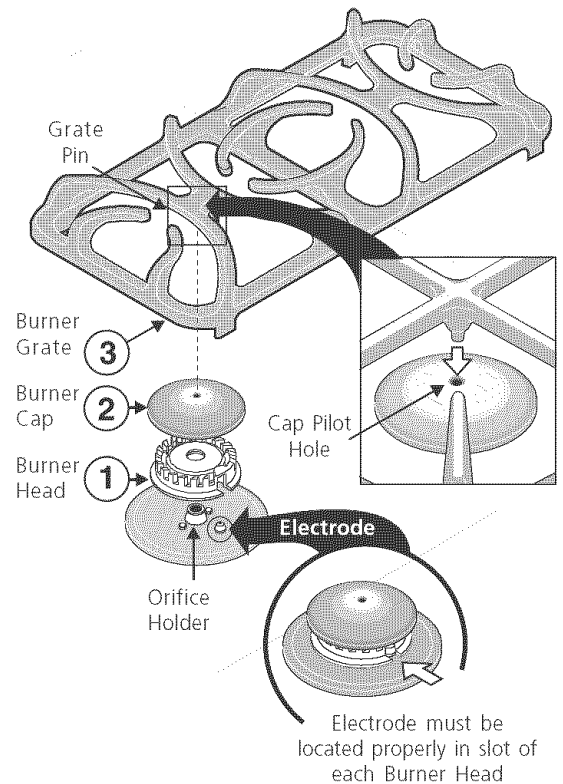

Figure 1
1. Place all 4 Burner Heads in the correct locations. Make sure that the correct Burner Head is placed with the corresponding Orifice Holder and that the Electrode is located properly in the slot of each Burner Head (See Figure 1). Proper Burner Head placement insures that each Burner will have the correct spark required for surface gas ignition.
2. Place the correct Burner Caps at each of the burner locations (Burner Cap Pilot Hole must face up). Each of the 4 (four) Burner Heads **MUST** have a Burner Cap installed to insure proper ignition and gas flame size and must be in place with the Pilot Hole facing up **BEFORE** placing the Burner Grates (See Figure 1).
3. Place the 2 (two) cast iron Burner Grates supplied with the range. Carefully line-up the 2 Grate Pins on each Grate with the Cap Pilot Holes in the 2 Burner Caps on each side of the range. **DO NOT** force the Burner Grates onto the Burner Caps. Forcing the grates down onto improperly installed Burner Heads and Burner Caps may damage the gas burners. Each Burner Cap is designed with a Cap Pilot Hole in the top center of the Cap. Visually check that **ALL** the Grate Pins line up into the Burner Cap Pilot Holes (See Figure 1). Properly installed Burner Grates will rest with all four Grate legs on the glass cooktop.